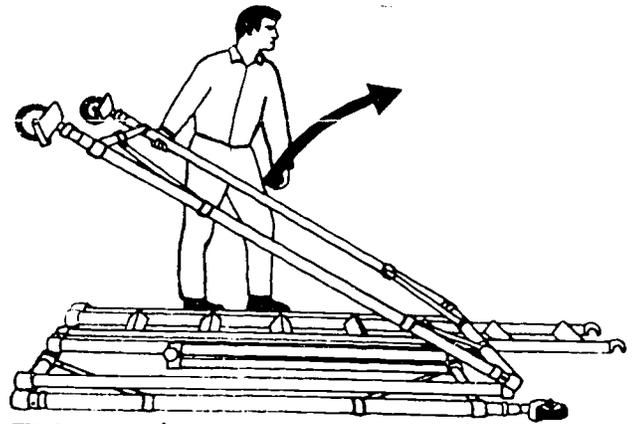

FIGURE 14. Swing the top end frame 270°
a. Place the adjustable section on the ground with the stairway treads facing up. Swing the top end frame over through 270° until you can snap the lower crossbar into the hooks at the bottom of the stairway, as shown in Figures 14 and 15.